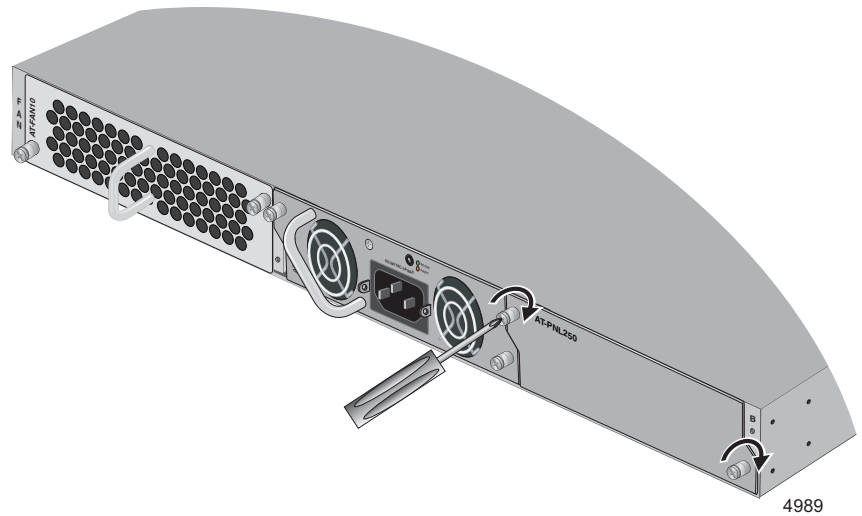

Figure 72. Tightening the Captive Screws on the Power Supply Blank Panel
2. Tighten the two captive screws with a cross-head screwdriver to secure the panel to the switch. Refer to Figure 72 on page 172.